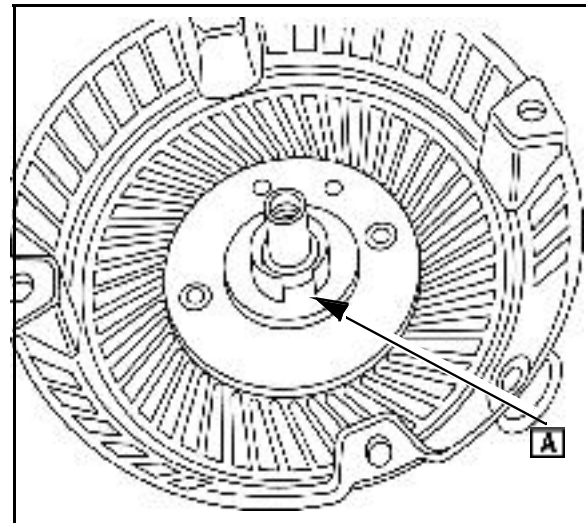

Fig. 25
1. Note the location of the free end of the spring in the pulley assembly and of the inner spring retainer ([A] Fig. 25) in the starter housing.
2. Line up the free end of spring with the spring retainer (A) in the housing (Fig. 25). Assemble the pulley in the housing.